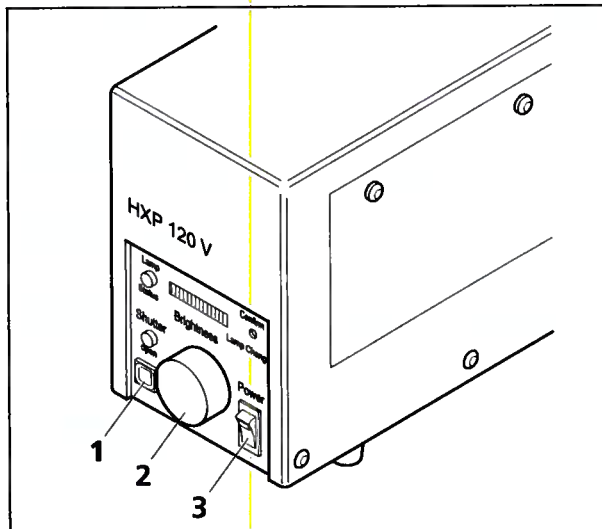

Fig. 3-12 Switching the HXP 120 V illuminator on/off
- For Axio Scan.Z1 HF FL with HXP 120 V switch the HXP 120 V on at the mains switch (Fig. 3-12/3) and set to maximum intensity (Fig. 3-12/2).
Do not actuate the intensity control (Fig. 3-12/2) or shutter (Fig. 3-12/1) during scanning!